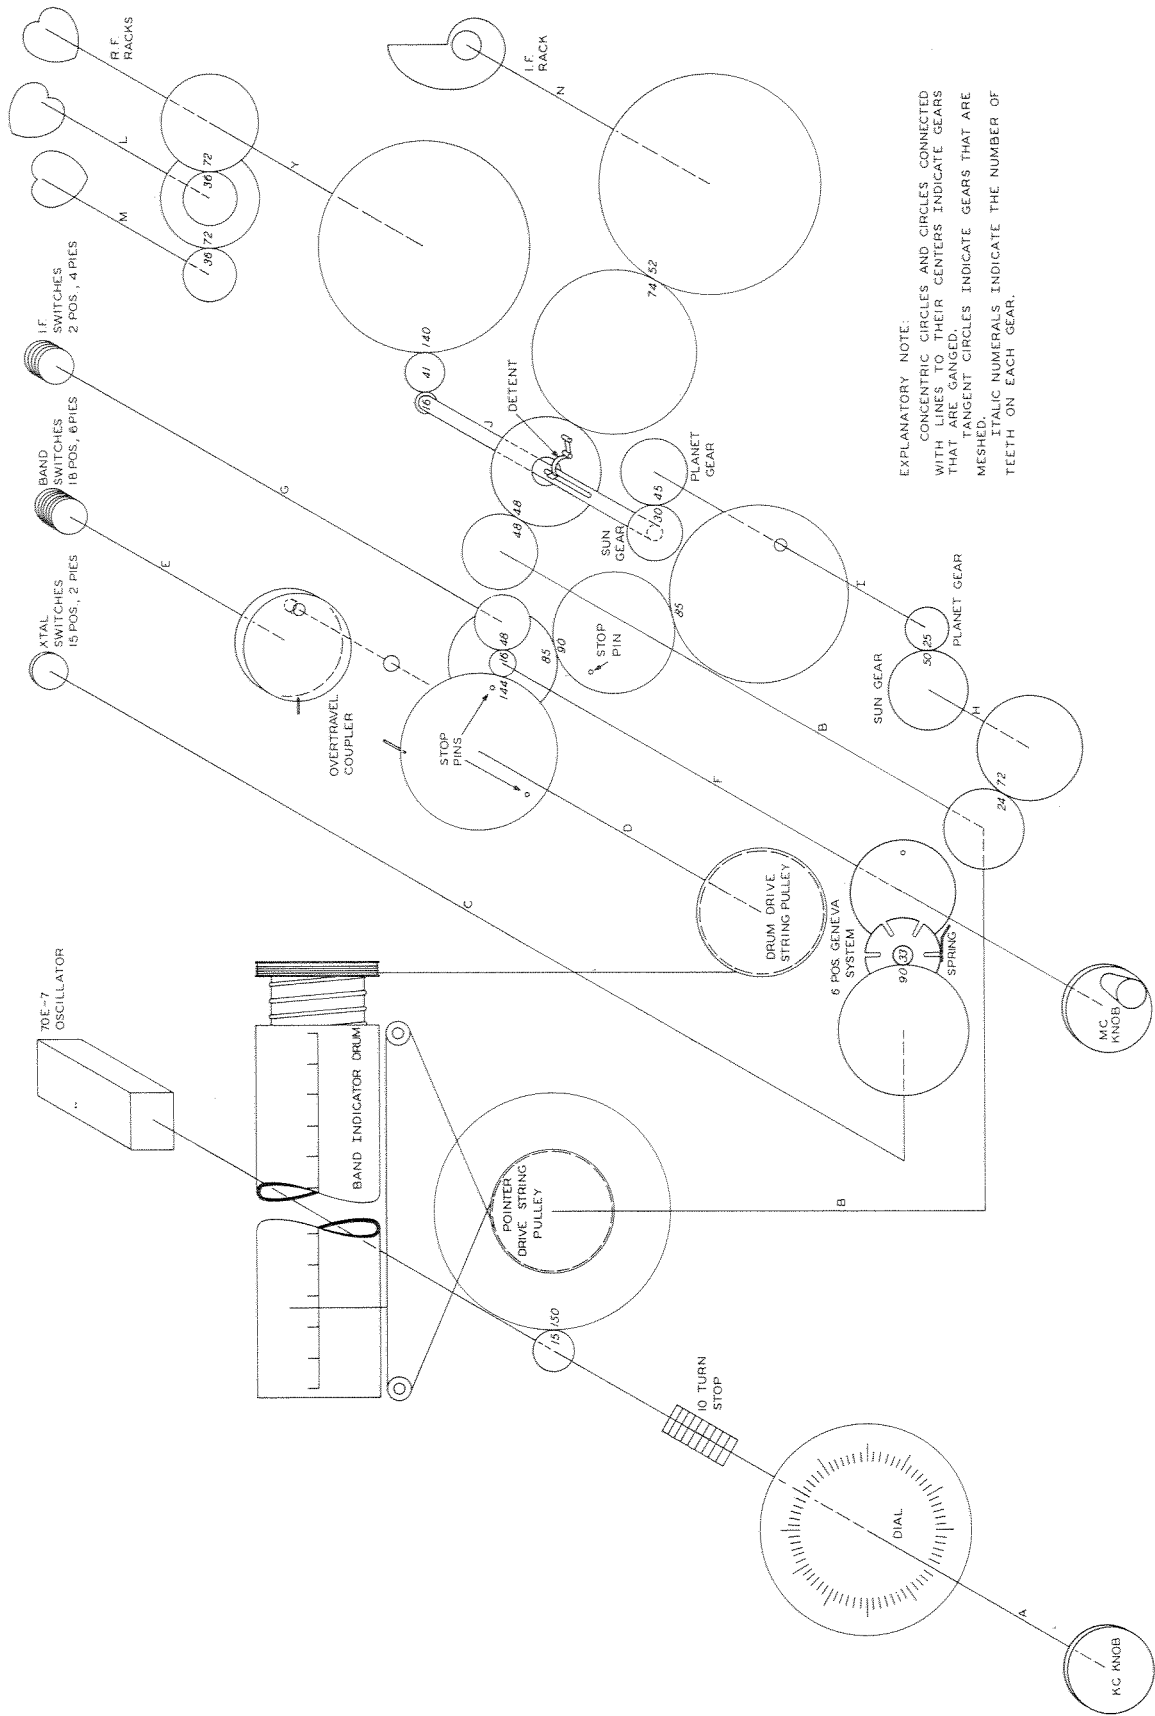

Figure 4-2 Mechanical Block Diagram
The switch sections of the band switch are ganged with the slug tables described above through an over-travel coupler. This over-travel coupler drops the band switch at band 16 (going from low to high bands) since the band 16 coils are used for all succeeding bands through band 30. On the way back down, the band switch is picked up again at band 16 and is operated one position for each band, as usual. Refer to figure 4-2. This mechanical diagram shows the gearing and
4.1.2. TUNING. - All r-f mixer, and variable i-f coils, as well as the high frequency oscillator coil are permeability tuned with powdered iron slugs (cores). While tuning, these slugs move in and out of the coils at a rate determined by a cam or (in the hfo) lead screw. Four slug racks or tables are used in the 51J receiver to perform the functions of tuning the r-f, mixer, and variable i-f stages. The group of three slug tables in the rear portion of the chassis tune the r-f and first mixer stages when the receiver is operating in the 3.5 to 30.5 mc frequency range (bands 4 to 30). The fourth slug table, located at the right hand edge of the receiver tunes the r-f stage, the first mixer grid, the third mixer grid and the variable i-f coils when receiving in the range 0.5 to 1.5 mc. It tunes the r-f stage and the variable i-f coils L-116, L-117, L-118 and L-119 when receiving in the range 1.5 to 2.5 and 2.5 to 3.5 mc. When receiving in the range 3.5 to 30.5 mc, this slug table tunes the variable i-f coils L-116, L-117, L-118, and L-119 only. The positions of the slug tables are varied in tuning by a system of gears and cams, see figure 4-2. On band 1 (0.5 to 1.5 mc) coils L-101 and L-110 are tuned over this frequency range by the main tuning knob through shafts A-B-N. On bands 2 and 3 (2.5 to 1.5 and 3.5 to 2.5), the tuning is done by the main tuning knob through the same shafts (A-B-N). On bands 4 to 7, the main tuning knob tunes coils L-104, L-107, and L-111 over one-fourth of their tuning range through shafts A-B-J-K and the differential, (shafts H and I). The band switch knob